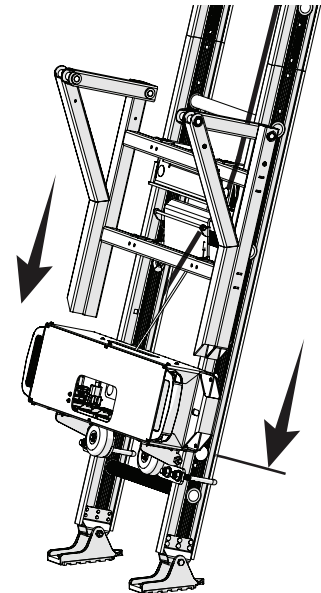

Fig. 13-2
- Slide the roller tube frame into the side mounting tube on the lower side of the power box. At the same time the angled tube will slide into the upper mounting tube on each side of the power box. See Fig 13-2 show right.
- Working from behind the TranzVolt attach the rubber hand knob on the ends of the power box passing through the platform frame. See Fig. 13-2.